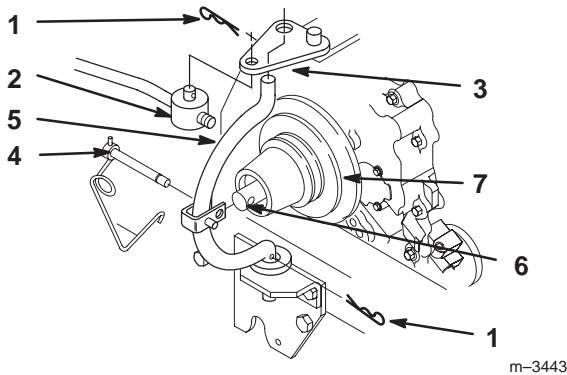

Figure 34
- Unlatch and remove locking clevis pin that secures yoke assembly to clutch shaft. Pivot yoke out and forward to remove from clutch shaft and engagement plate (Fig. 34).
- Replace belt in inside pulley groove (Fig. 34).
- Assemble yoke and engagement plate and attach locking clevis pin, trunnion and hairpin cotters to secure (Fig. 34).